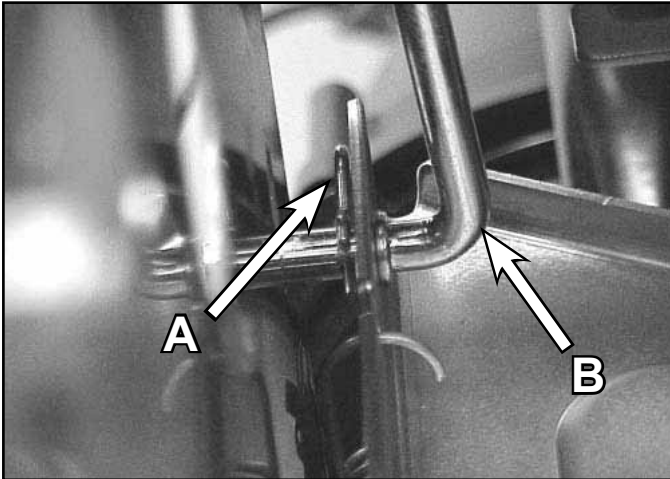

Fig 149 MVC-039X.jpg
3. Install the speed control linkage through the pivot plate and install the hair clip into the hole of the speed control linkage on the outside of the pivot plate (Fig. 149).